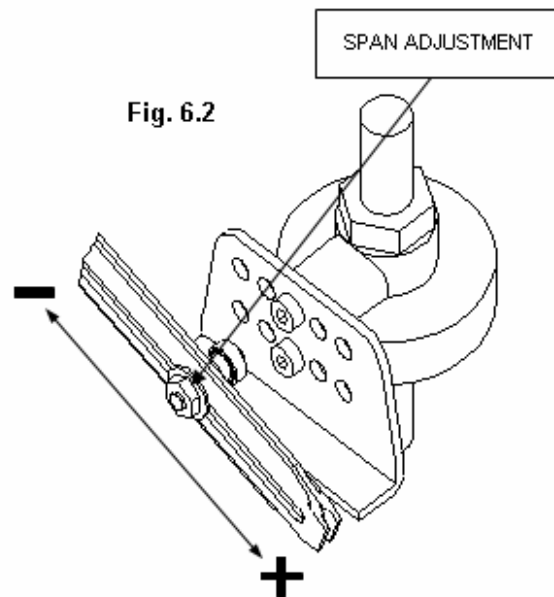

Fig. 6.2
3. Inject a signal of 20 mA (or 15psi) and slide the feedback lever pin such that the valve is in the fully retracted position (moving the pin towards the end of the lever increases the movement see fig. 6.2). Set the valve position indicator.